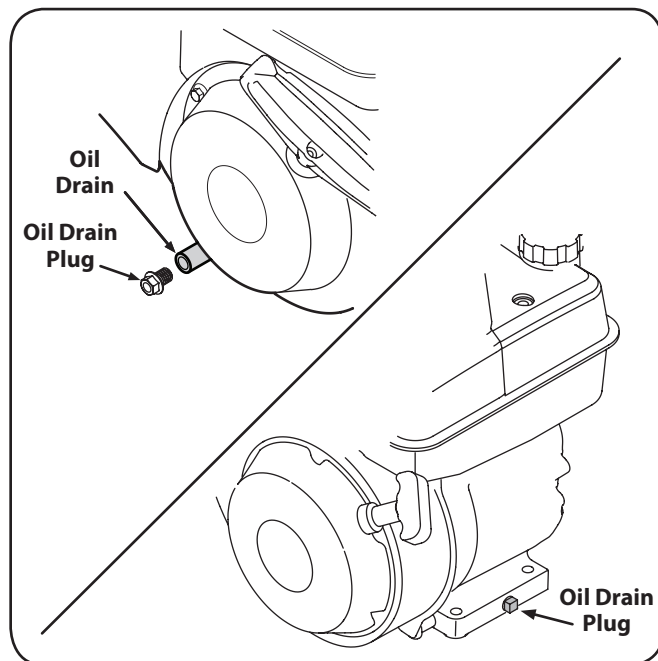

Figure 6-2
3. Be sure to find correct oil drain plug location, if present (see the equipment Operator's Manual instructions for additional information). See Fig. 6-2.
6. Remove the Oil drain plug. See Fig. 6-2.
NOTE: Depending on which engine model you have, the oil plug may be positioned differently. These positions include on the front and/or rear side of the block, or as an extended tube. Examples are shown in Figure 6-2.